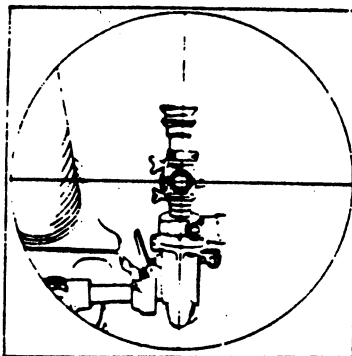

Fig 4-12. Aiming circle bisecting the mortar sight.
- (d) The aiming circle operator will then bisect the lens of the sight with the aiming circle (fig 4-12) and announces "Gun number _____, deflection _____".
- (h) The aiming circle operator will again refer the aiming circle to the sight (fig 4-12) and give you another deflection by announcing "Gun number _____, deflection _____".